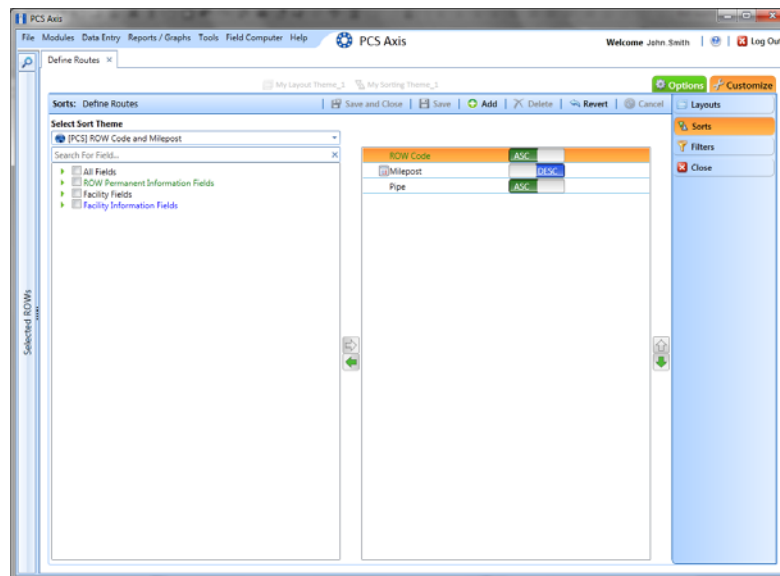

Figure 7-49. Sorts
- 3 Click the **Customize** tab , then the **Sorts** button  to open the *Sorts* page (Figure 7-49, page 338).